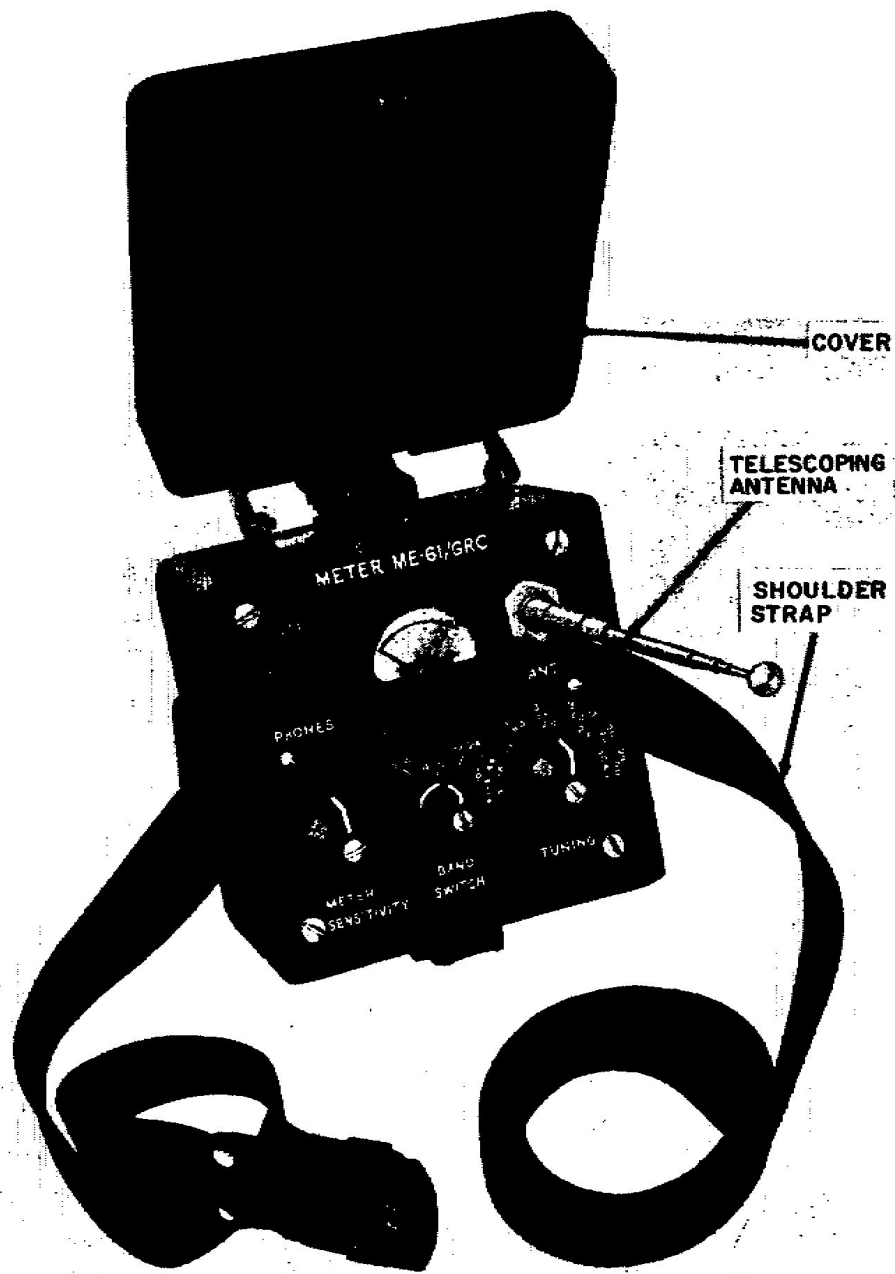

Figure 8. Meter, Field Strength ME-61/GRC.
- (3) Mast Sections MS-116A, MS-117A, and MS-118A are part of the AN/GRC-87 and the AN/VRC-34. These mast sections are part of a whip antenna and are made of metal tubing with threaded ends.
d. Field Strength Meter. Meter, Field Strength ME-61/GRC (fig. 8) is part of the AN/GRC-87 and AN/VRC-34. It is portable and is housed in a metal case, which is waterproof when the cover is closed.